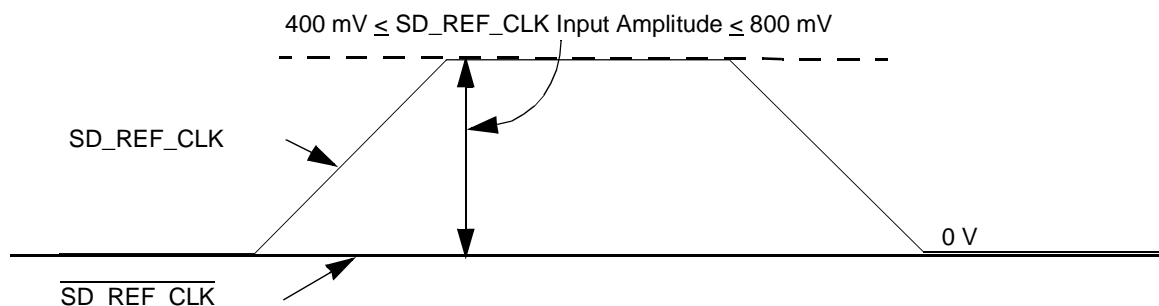

Figure 49. Single-Ended Reference Clock Input DC Requirements
- The SD\_REF\_CLK input average voltage must be between 200 and 400 mV. Figure 49 shows the SerDes reference clock input requirement for single-ended signaling mode.